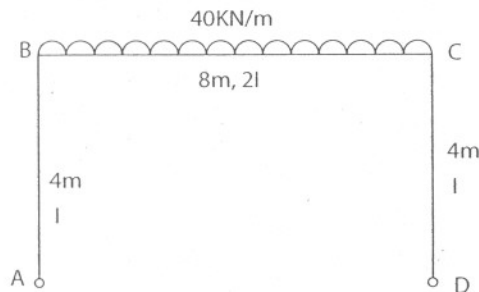

Fig. 2
14. A rectangular portal frame ABCD is simply supported at A and D and loaded as shown in fig.2. Using column analogy method, draw BMB for the frame.